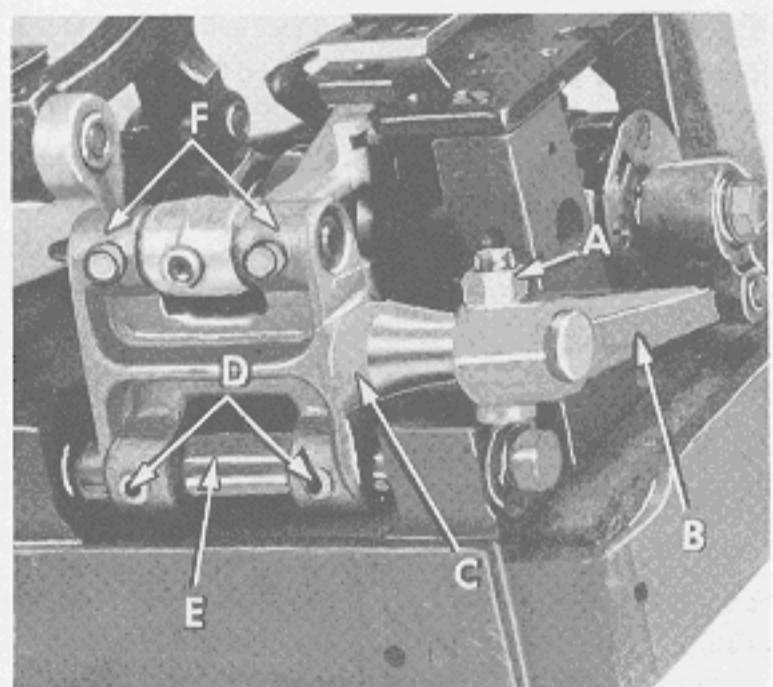

Fig. 7
The feed dog should be set for maximum travel and equal clearance on all sides in the throat plate. NOTE: See "CHANGING STITCH LENGTH". With maximum feed travel set, it may be necessary to centralize feed dog motion to obtain equal clearance in the front and rear of throat plate. If required, loosen nut (A, Fig. 7) which clamps the feed rocker arm (B) to the feed rocker (C) and move the feed rocker forward or rearward as needed and retighten nut. Equal side clearance can be obtained by loosening screws (D) which hold the feed rocker (C) onto the feed rocker shaft (E), move the feed rocker to desired position and retighten screws. Make sure the feed rocker arm (B) does not bind after making this adjustment.
Machines having needle bearings in feed rocker at locations (F, Fig. 7) may require repacking after years of service. Bearings should be cleaned and re-packed with Union Special Corporation grease No. 28604 P.